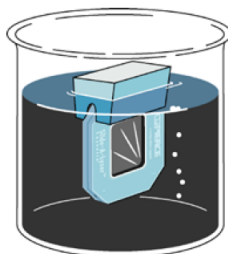

Figure 6 Dialyze the sample.
7. Slip the cassette into the groove of a buoy and float this assembly in the dialysis solution of choice (Figure 6).